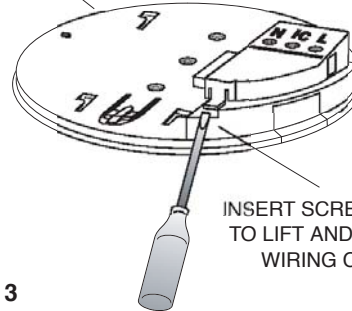

Figure 3
3. Lift off the wiring cover as shown in **Figure 3**.